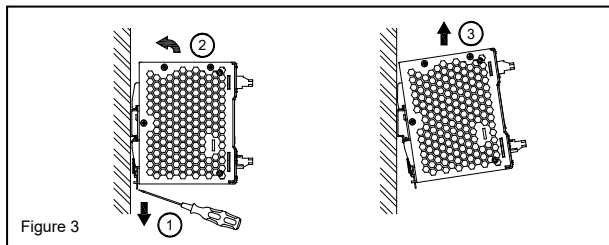

Figure 3
4. Dismounting (Fig. 3)
To uninstall, pull or slide down the latch as shown in Fig. 3. Then, slide the unit in the opposite direction, release the latch and pull out the unit from the rail.